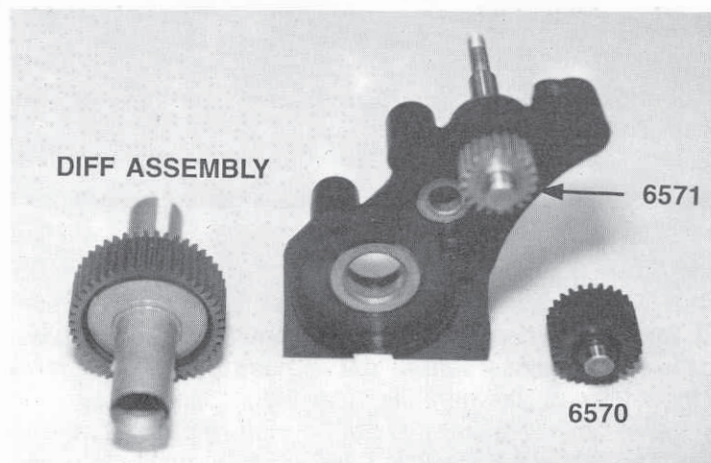

Fig. 56
□ **Figs. 56 & 57** We now need to install the diff assembly into the right case half. We need to make sure that the diff bolt head goes through the right case half. We want to end up with both adjustment points on the same side (the torque clutch and diff bolt). **WARNING!!** If you install the diff bolt head so that it is on the driver's side of the transmission, you may have a problem with the diff adjustment backing off and the diff then slipping.